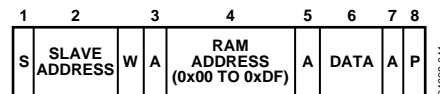

Figure 41. Single Byte Write to RAM
- To write a single byte of data to RAM. In this case, the command byte is the RAM address from 0x00 to 0xDF and the only data byte is the actual data, as shown in Figure 41.